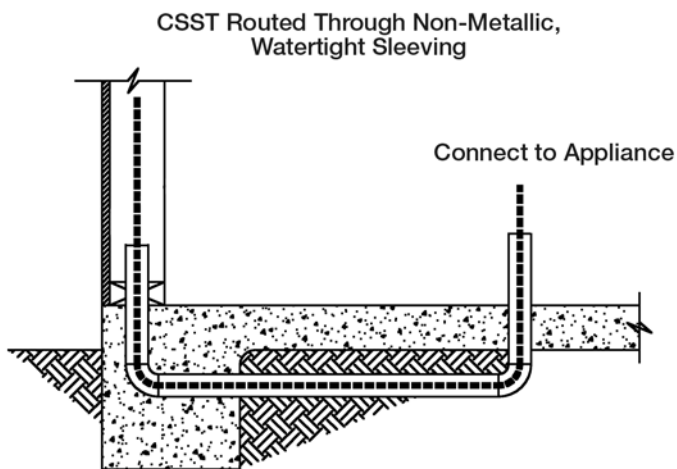

Fig. 4-87
- a) Gastite/FlashShield+ CSST shall not be buried directly in the ground or directly embedded in concrete (e.g. slab on grade construction, patio slabs, foundations and walkways). When it is necessary to bury or embed Gastite/FlashShield+ CSST, the tubing shall be routed inside a non-metallic, watertight conduit that has an inside diameter at least 1/2 inch larger than the O.D. of the tubing (Fig. 4-87). For ends of the conduit installed outdoors, the conduit shall be sealed at any exposed end to prevent water from entering.